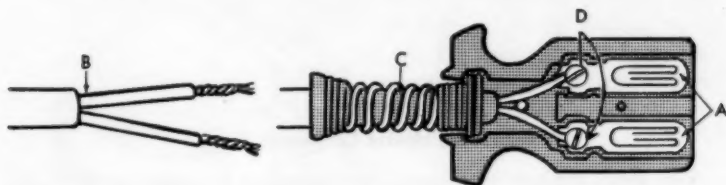
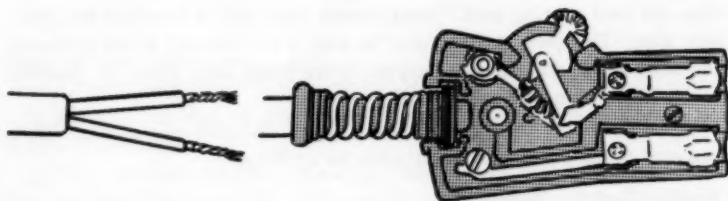

Figure 4. Replacing cord on a heater plug
Figure 5. Heater plug with switch
2. Open the heater plug, noting carefully how it is assembled (figure 4). If the plug has a switch (figure 5), be careful not to dislocate the spring.
3. Clean corroded terminals (figure 4 a) by scraping them with a knife or by polishing with fine sandpaper. However, if the terminals are very rusty or have been overheated so that the metal shows dark rainbow colors, check to see if the terminals fit tightly around the inserted prongs of the appliance. If the springiness is gone from the terminals, a new heater plug will be needed. Loose-fitting terminals cause sparking, which in turn injures the heating element of the appliance.
4. Prepare end of cord to be connected to plug (figure 4 b). Remove $1\frac{1}{2}$ to 2 inches of the outer braid and the asbestos insulation. Remove $\frac{3}{4}$ inch of the inner rubber insulation from the wires. Take care not to cut or break the copper wires.
5. Pass the cord through the wire coil and bushing (figure 4 c). To keep the braid from fraying, wrap heavy thread or a narrow strip of friction tape around cord where it enters the heater plug. Be sure outer braid extends well into plug before tightening screws.
6. Twist the bare copper wires tightly together. With a screw driver loosen the binding screws of the terminals (figure 4 d) and wrap the twisted wires